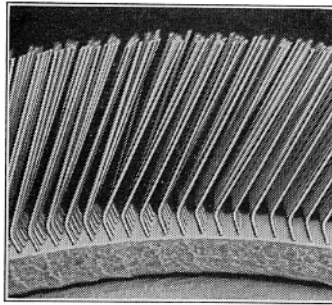

FIG. 10. FANCY CLOTHING
16. There is little difference between the clothing used for the cylinder and that used for the flats, or the workers and strippers. But you'll find the fancy clothing, Fig. 10, quite different. You'll remember that the fancy has only a raising action and that the wire points reach into the points of the cylinder clothing.